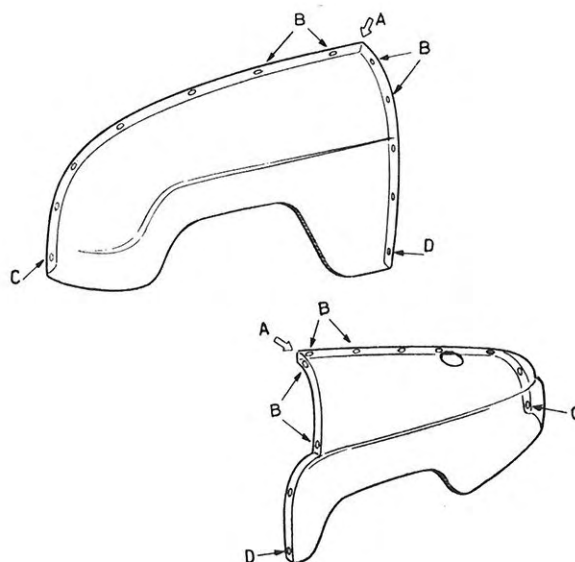

Fig. 6. Removal and installation of fenders
2. Remove fender retaining screws, starting at C and D, see Fig. 6.